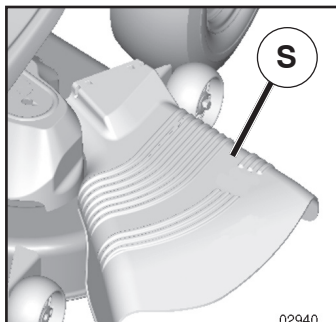

Fig. 23
**CAUTION:** Do not operate the mower without either the entire grass catcher, on mowers so equipped, or the deflector shield (S) in place (See Fig. 23).